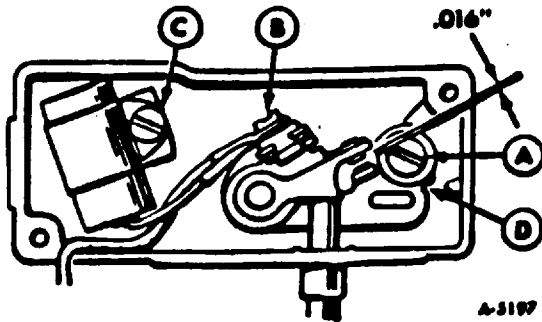

Figure 1—Breaker Point Adjustment—Type 1
3. Remove mounting screw (A) and pull the points out of the box just far enough so screw (B) can be removed and leads disconnected.
4. Remove screw (C) and replace condenser with a new one. Tighten screw (C).
5. Replace points with a new set. Tighten screw (B) but do not completely tighten mounting screw (A).
7. Rotate engine clockwise (facing flywheel) by hand until 20° BTDC mark on flywheel aligns with center of timing access hole. (Note, early units marked at 25° BTDC should be set at 25° BTDC.) Then, using a screwdriver inserted in notch (D) on the left side of the points (reverse view of figure 1), adjust points until test lamp just goes out (or Ohmmeter reads Infinity). Tighten screw (A).